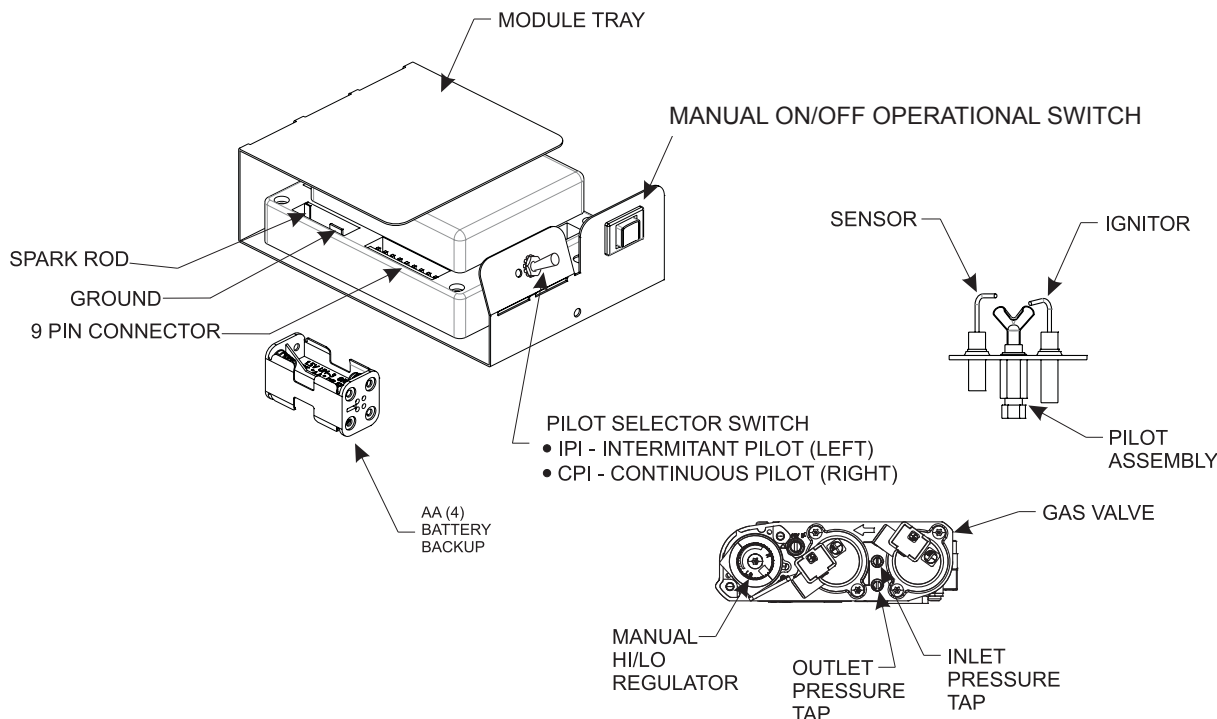

Figure 79
NOTICE: A small toggle switch is located on the front of the module tray that is used to switch from IPI (left) to the CPI (right). See **Figure 79**.
3. The gas valve has inlet and outlet pressure taps as shown in **Figure 79**. Refer to page 13 for gas pressure requirements.
NOTICE: The gas control has a manual HI/LO flame adjustment knob (regulator) that allows you to increase or decrease the height of the burner flame. See **Figure 79**. Rotate the HI/LO knob counterclockwise to "HI" to increase the flame height, and clockwise to "LO" to decrease the flame height.
To connect the remote receiver to the fireplace, first disconnect the ON/OFF switch wires from the white and green wire connectors and connect the wires from the remote receiver to the green and white wire connectors. See **Figure 79**. Follow the instructions included with the remote control for programming and other operational information.